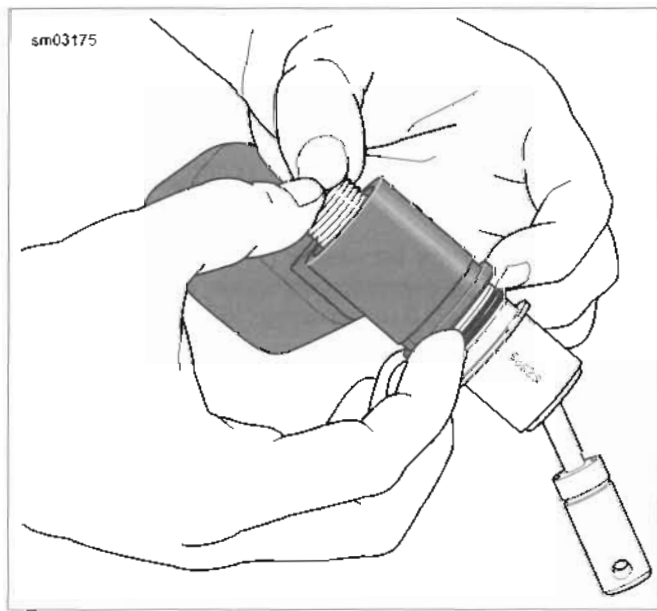

Figure 2-49. Removing Cartridge
4. Remove the large flat washer (17), dust boot (12) and spring (10) from pushrod/clevis/spacer washer (7) end of cartridge body (2). Remove spring (10) and spring retainer (11) from dust boot (12).
5. See Figure 2-49. Push on threaded end of cartridge body to remove from reservoir adapter. Use hand pressure only. Exercise care to keep cartridge body free of dirt and grease.